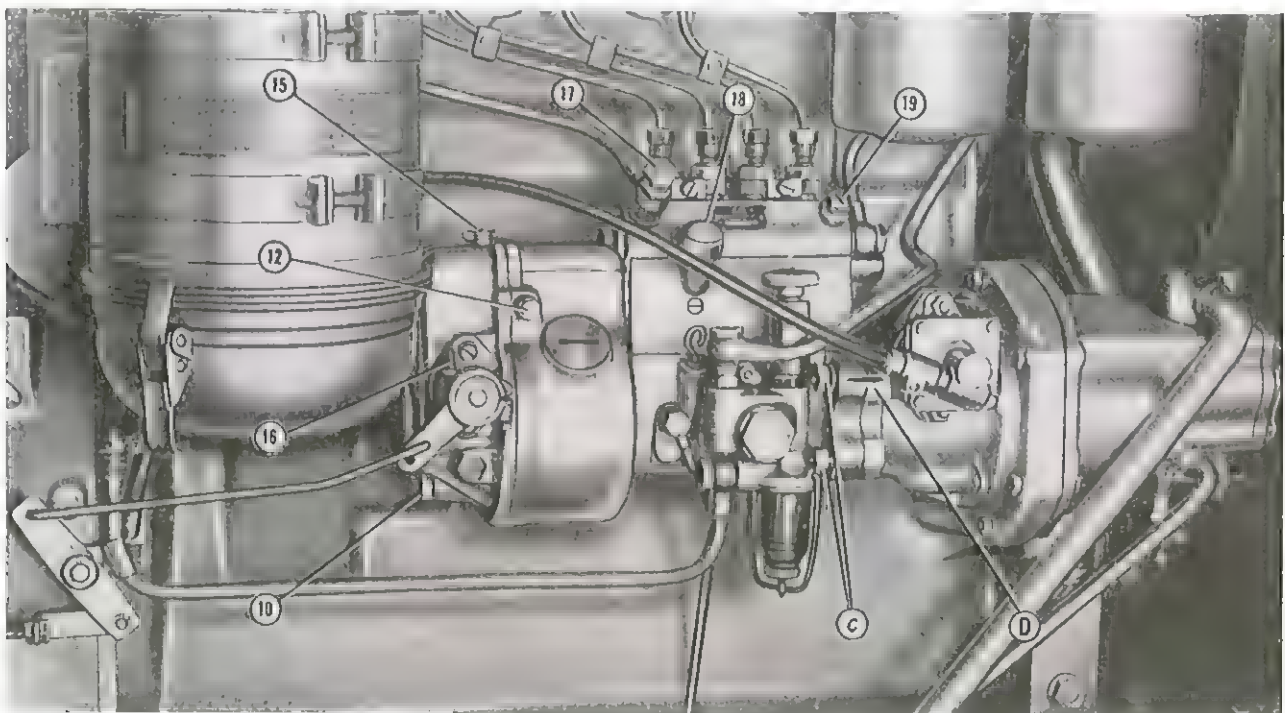
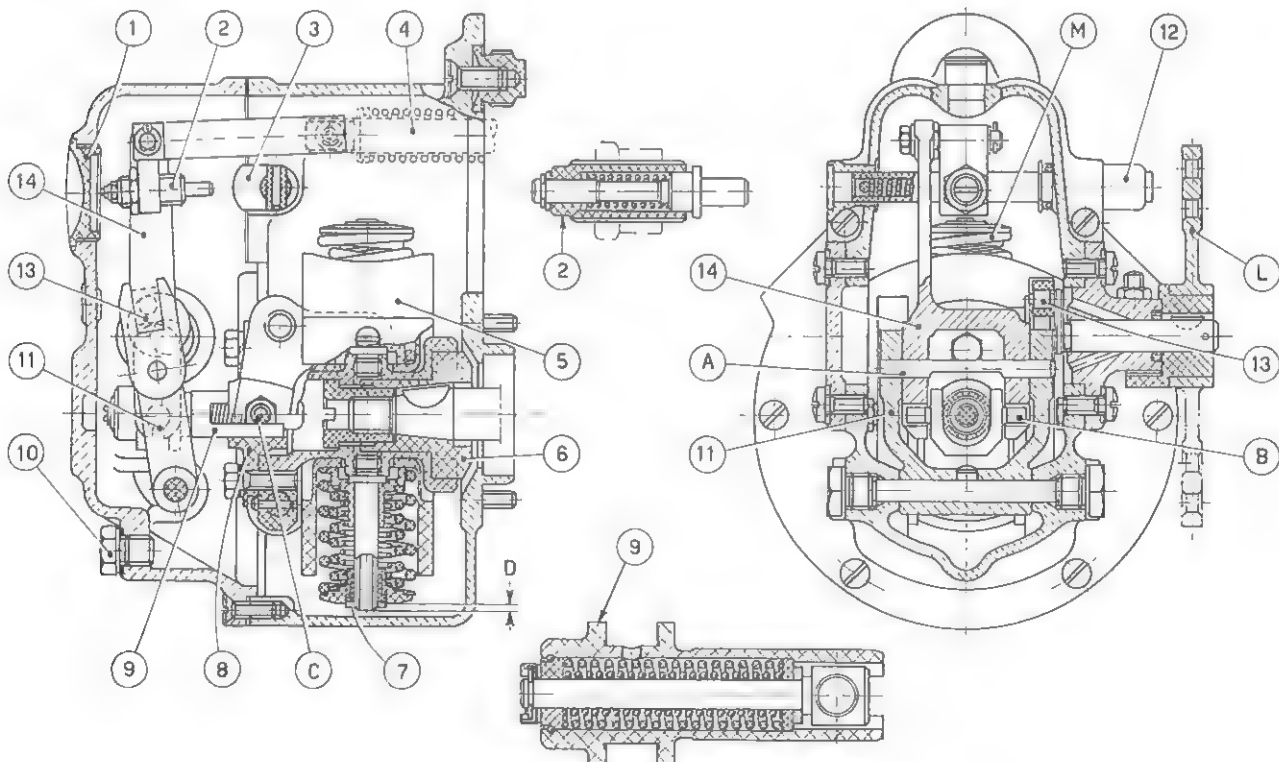

Fig. 16. - View of the injection pump installed on tractor.
Fig. 23. - Sectional view of the fly-weight type speed governor.
- push the pump to contact the crankcase flange and bring the marks on the outside face to register (D, fig. 16);
Before checking again tighten the screws which fasten the pump to the crankcase or those which fasten the sleeve to the driving gear (C, D, fig. 16) if they have been slackened before to permit adjusting.
The control rod stop (3, fig. 23) is located inside the governor cover and can be displaced from its setting by depressing a push-button control, which allows the control rod to move beyond the maximum fuel position in order to obtain excess fuel for starting the engine. Once the engine is started the stop and control rod return to their original respective positions.
The governor is lubricated through an oiler (15, fig. 16) mounted on the cover and a plug (10, fig. 23) is provided for checking the oil level.
- the fly-weights (5, fig. 23) mounted on spindles at right angles to the camshaft and connected through two bell crank levers to the override device (9) by pivot (C);
- the inside floating lever (14) connected to the top end of the control rod (4), to the bottom end of the link fork (11) and to the override device (9) through pivot pin (A) and joint (B);
- the outside control lever (L) connected to the link fork (11) which is pivoted on the governor cover.